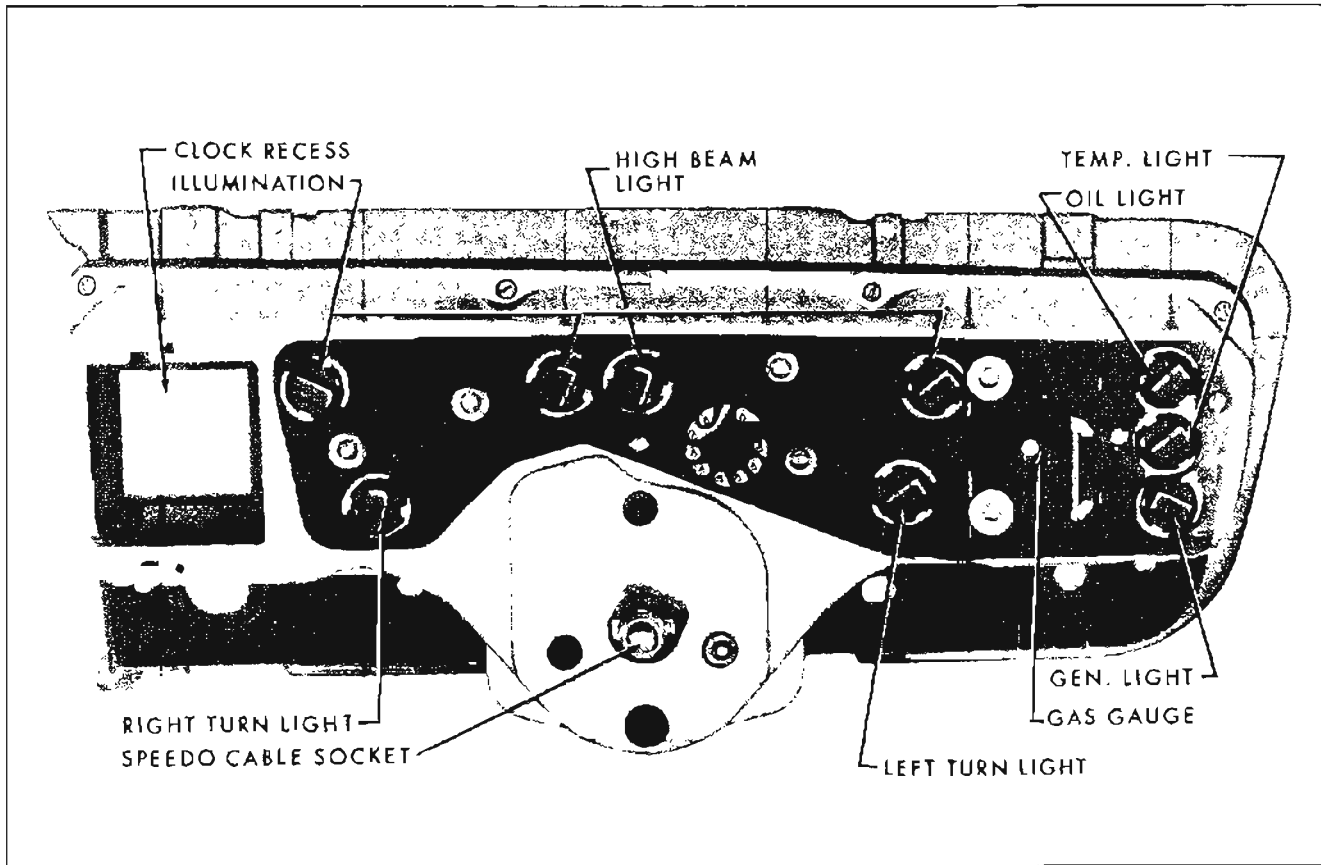
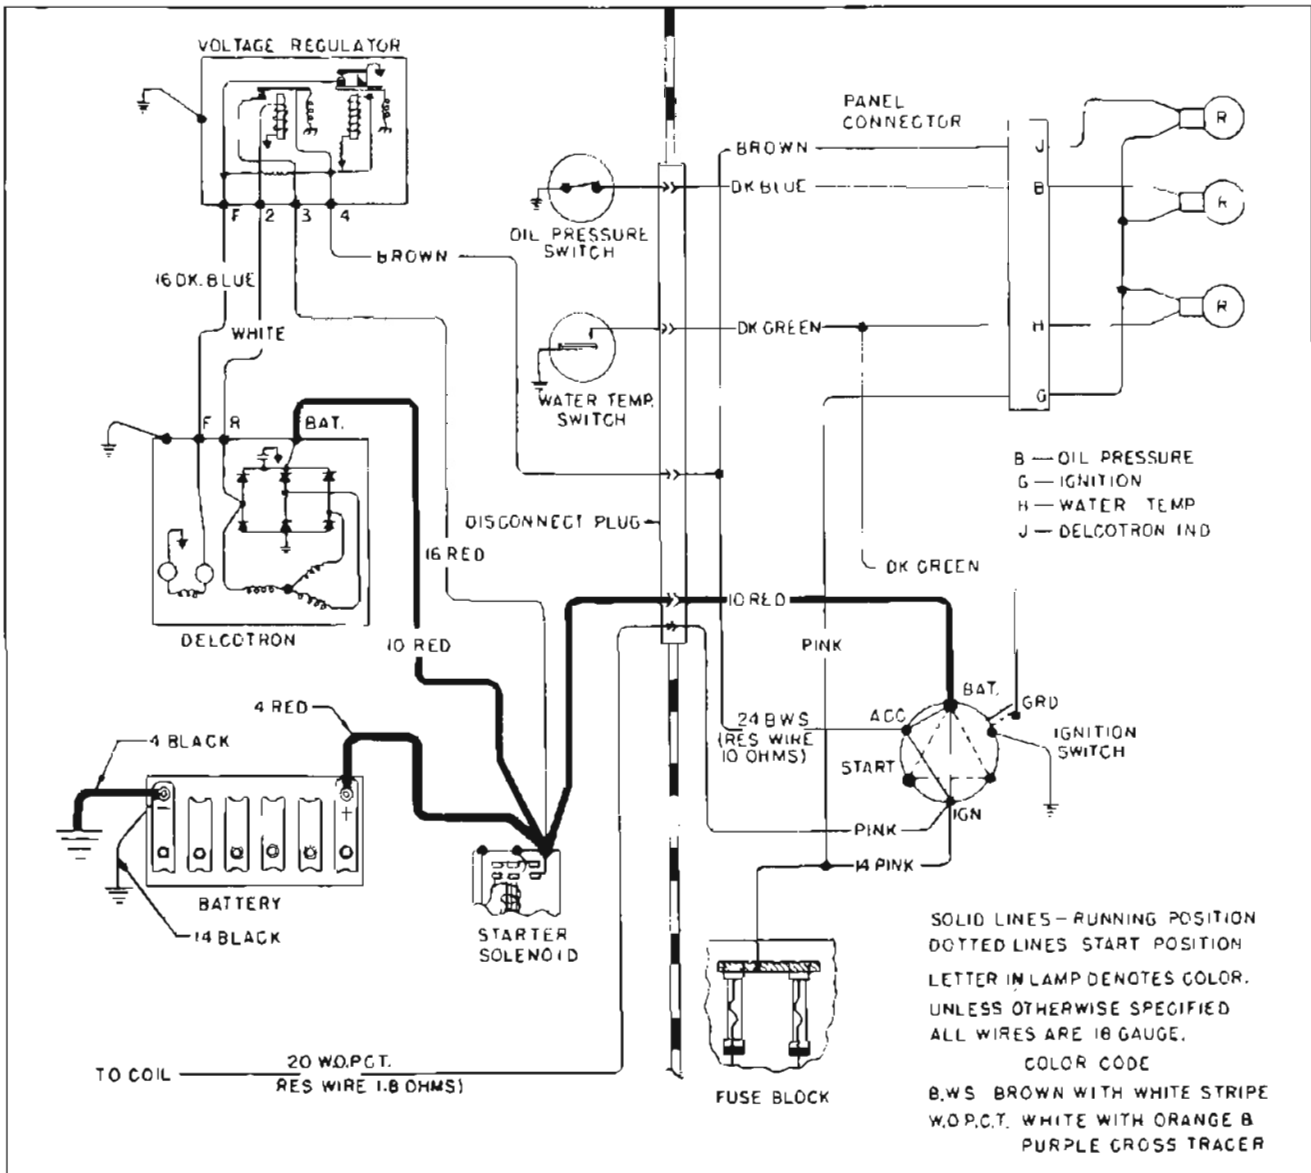

Figure 10-63—Instrument Cluster - Back Side
Figure 10-68—Indicator Light Circuits
used to complete the circuit for the fuel gauge and the lights in the cluster assembly. See Figure 10-63.
To trace the generator indicator light circuit, see Figure 10-68. With the ignition switch turned on (engine not running), current flow is through the ignition switch, out the "IGN" terminal, through the generator light in the instrument cluster, to the "4" terminal of the regulator, through the lower contacts of the voltage regulator (held closed by the spring), out the "F" terminal, in the "F" terminal of the generator,
After the engine is started, the voltage put out by the generator immediately closes the field relay. This causes battery voltage from the "3" terminal to be present at the "4" terminal. See Figure 10-68. Since battery voltage is present on both sides of the generator light, the light goes out. If the generator light comes on with the engine running, the charging circuit should be tested at the first opportunity to determine the cause of the trouble. See paragraph 10-21.
through the pressure switch to ground, and the "Oil" indicator light in the cluster will be turned on. See Figure 10-68.
switch. As a test circuit to check whether the "Temp" indicator bulb is functioning properly, a wire which is connected to the "GND" terminal of ignition switch is tapped into the temperature switch circuit. See Figure 10-68. When the ignition is in the "Start" position (engine cranking), the "GND" terminal is grounded inside switch and the "Temp" bulb will be lit. When the engine is started and the ignition switch is in the "On" position, the test circuit is opened and the bulb is then controlled by the temperature switch.
Use Figure 10-68 to trace wiring circuits for indicator lights and Figure 10-63 for location of indicator light bulb sockets. To determine if there is a ground in the indicator light circuit, remove connector from control switch. If light stays on, trouble is in circuit.
2. Remove the dash unit to instrument cluster printed circuit retaining screws. See Figure 10-63.